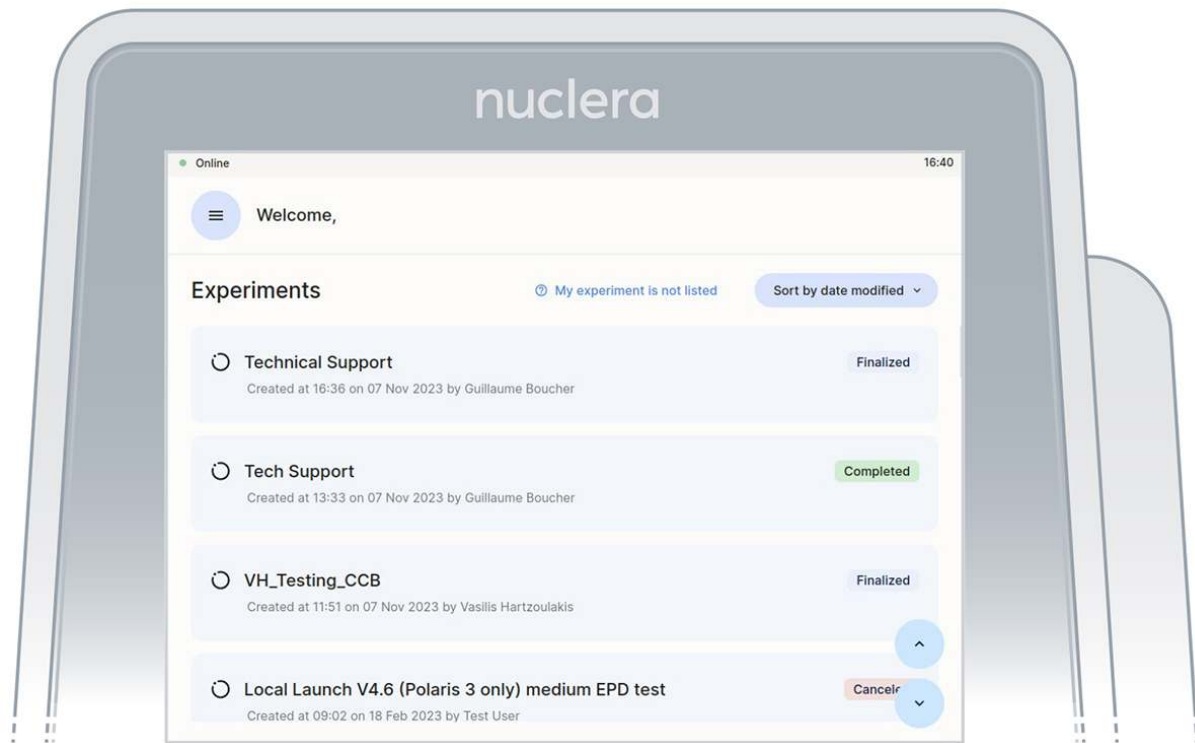

Figure 7: Instrument software welcome page with the list of finalized experiments
3. On the instrument software, select an experiment you set up on eProtein Discovery (Figure 7).